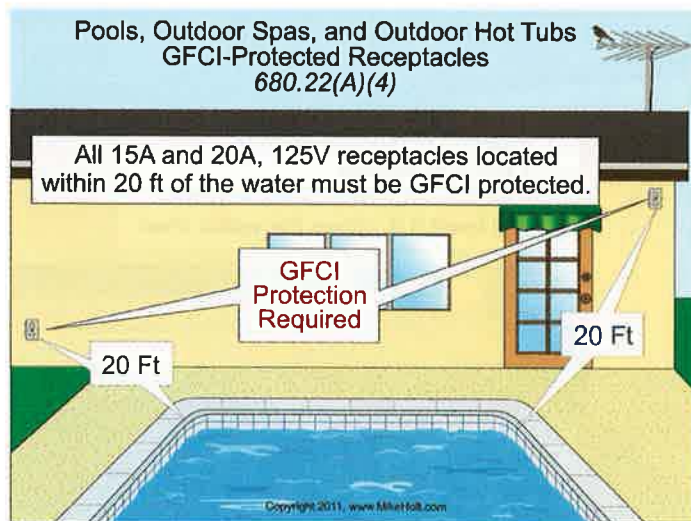

Figure 680-17
(4) GFCI-Protected Receptacles. 15A and 20A, 125V receptacles located within 20 ft from the inside walls of a permanently installed pool, outdoor spa, or outdoor hot tub must be GFCI protected. **Figure 680-17**